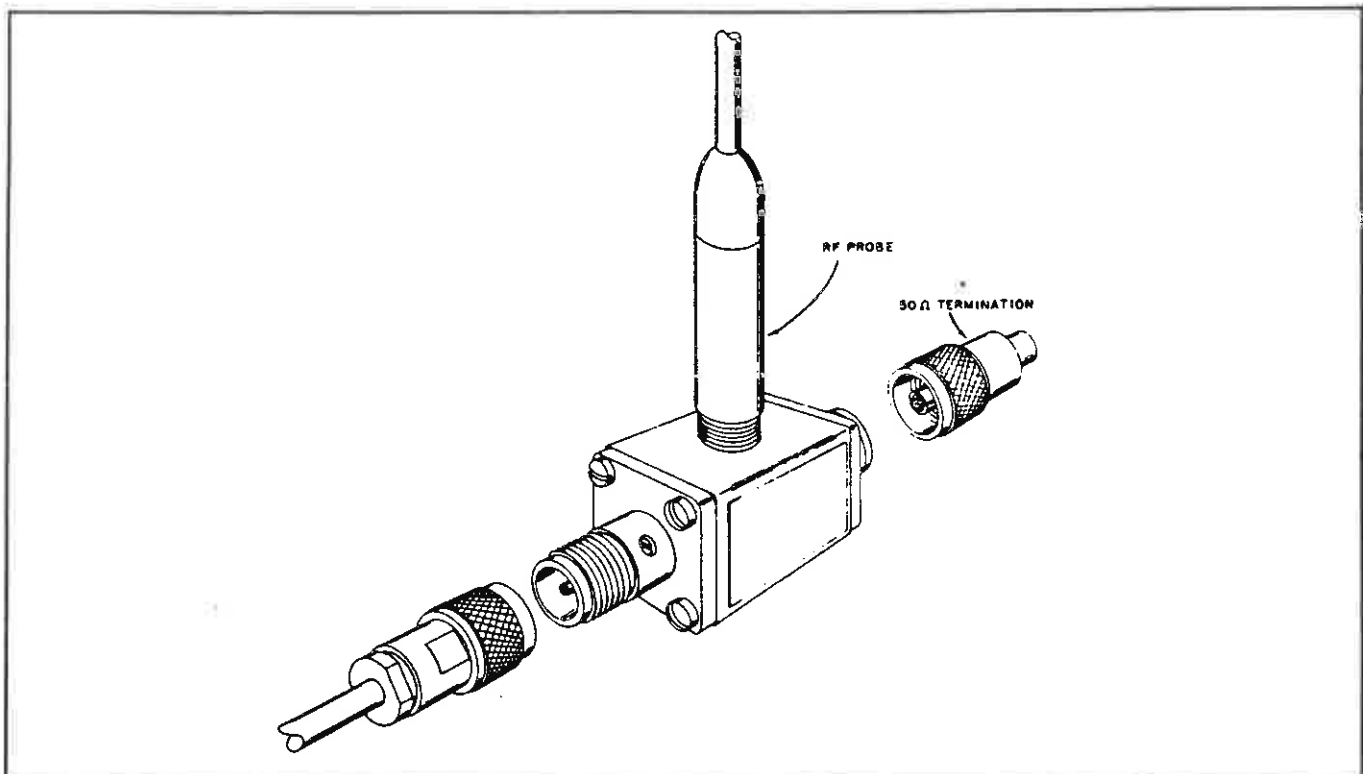

Figure 3-3. Attachment of Model 952003 50 Ohm N Tee Adapter to Model 952001B Probe and Model 952014 50 Ohm Termination
2. For frequencies above 100 MHz, the probe tip should not be used because the series impedances of the connection will affect the voltage level at the probe and cause an error in measurement. For high impedance voltage measurements, connection should be made directly to the center contact of the RF probe, with the ground connection kept as short as possible. For matched impedance measurements, one of the various terminated adapters, tee adapter or Model 952009 Probe should be used Refer to Figure 3-3.